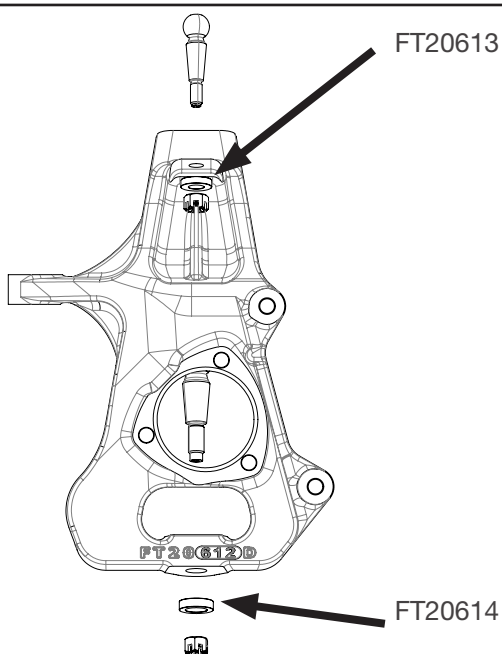

FIGURE 47 - STEP 33
33. If you have the factory aluminum or stamped steel control arms locate FTS20612D and FTS20612P you need to install the FT20613 and FT20614 ball joint spacer under the nut when installing the knuckle. Attach the lower control arm to the knuckle using the stock hardware and torque to 70 ft-lbs. Attach the upper control arm to the new knuckle using the factory hardware and torque to 75 ft-lbs. **SEE FIGURE 47**